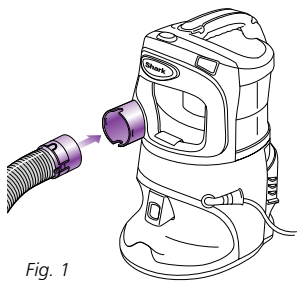

Fig. 1
- 1 Insert the end of the flexible hose into the connector on the front of the **Lift-Around™** Canister Vac. (**fig. 1**)